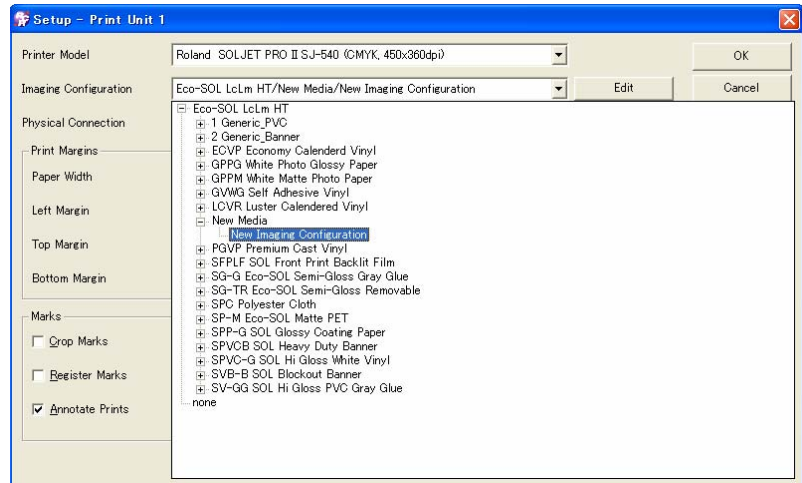

Fig.5 Select Imaging Configuration
6. Select [Setup] from [Print] menu. You can see the created [New Imaging Configuration] setting under [New media] in Fig.5. Select [New Imaging Configuration] from [Imaging Configuration]. (e.g. [New Media] folder was created at step 5).